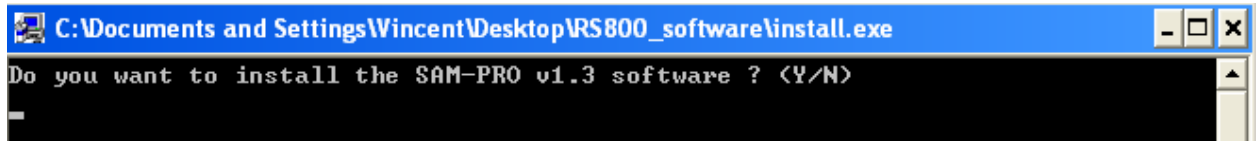

Fig. 01
- Step 2:** Follow prompts until you are finished installing the RS800 software. A pop-up window will be shown: (Fig. 01)